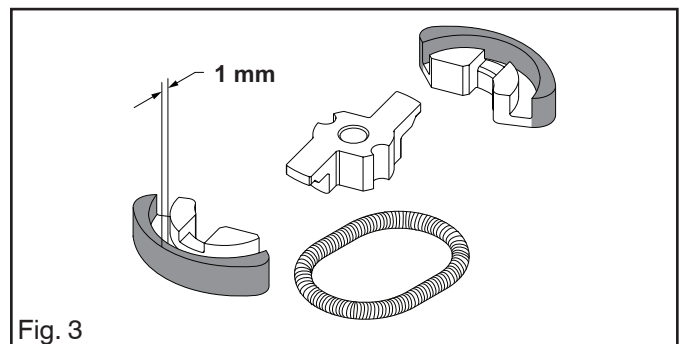

Fig. 3
- That the thickness on the clutch shoes is no less than 1 mm at the most worn point. See Figure 3. If the thickness is less, change the entire clutch.